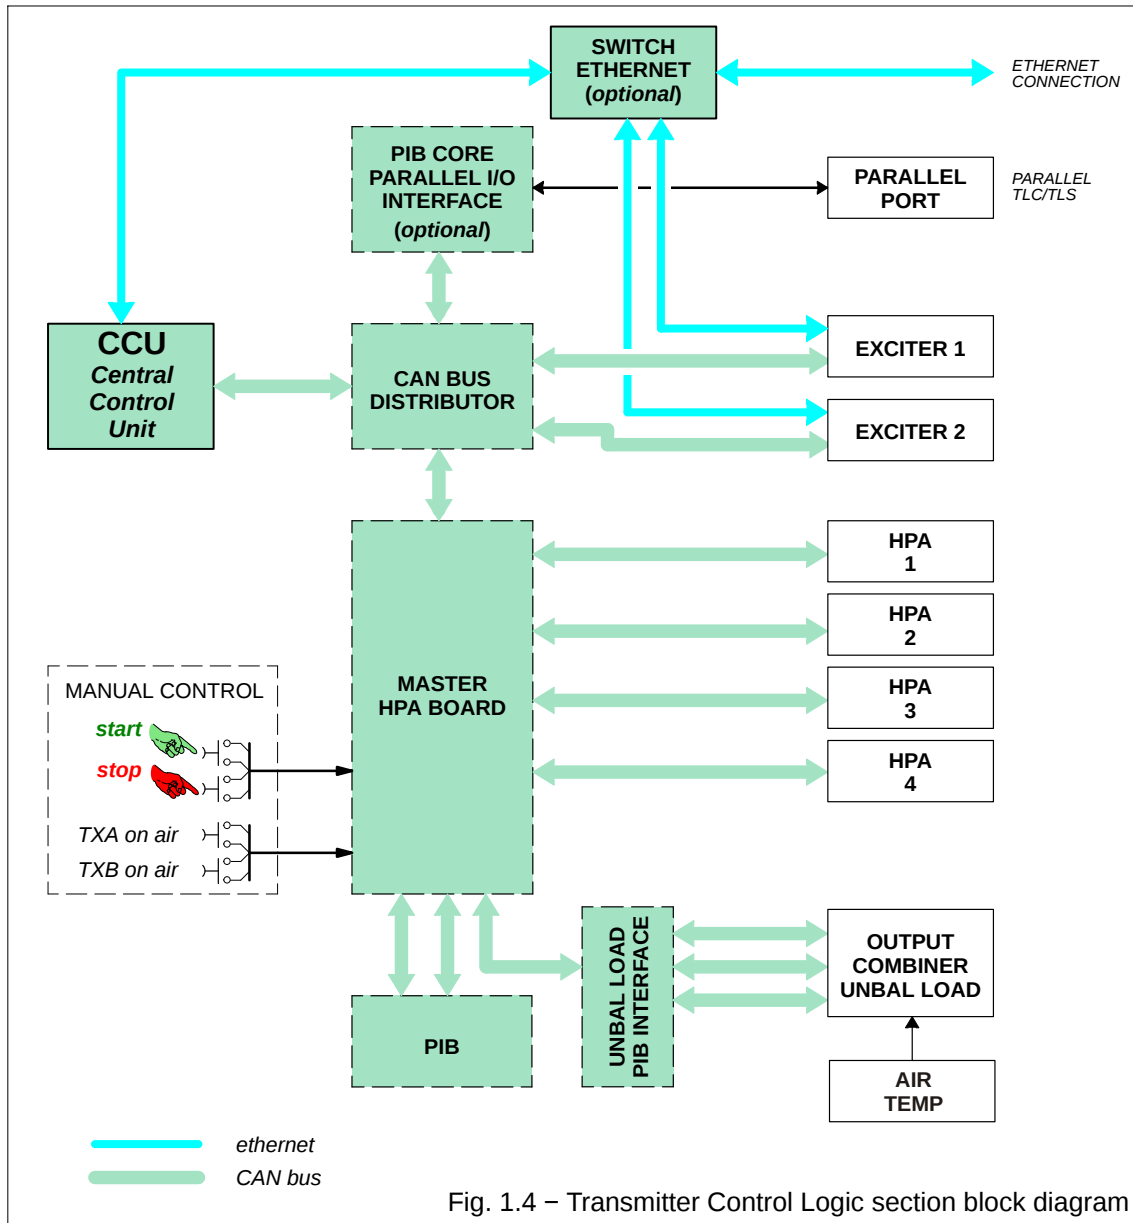

Fig. 1.4 – Transmitter Control Logic section block diagram
- Fig. 1.4 block diagram of transmitter Control section;